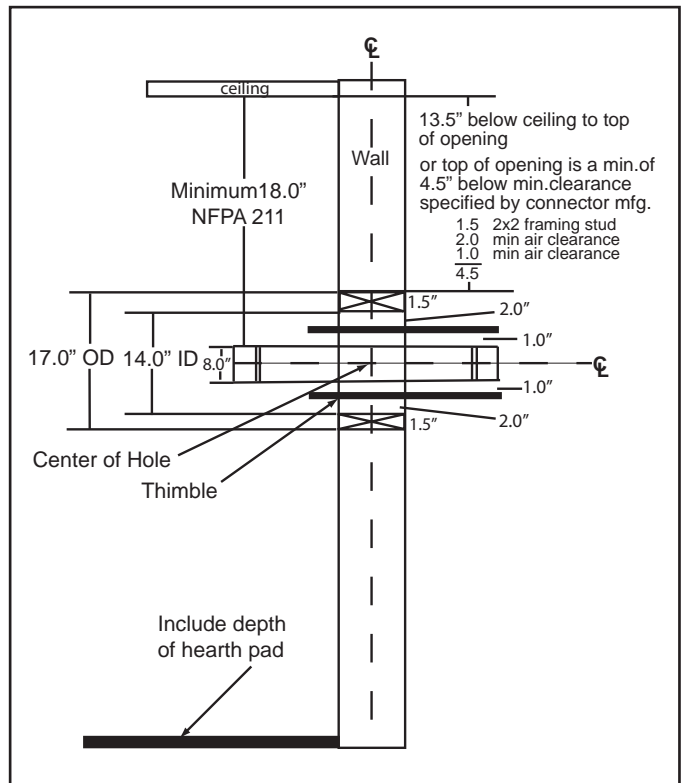

Figure 18.1
- Top of wall opening is a minimum of 13-1/2 inches (343mm) from ceiling or 4-1/2 inches (114mm) below minimum clearance specified by chimney connector manufacturer. NFPA 211 minimum vertical clearance of 18 inches (457mm) from chimney connector and ceiling or minimum recommended by chimney connector manufacturer. **Figure 18.1.**
1. Open inside wall at proper height for the chimney connector to enter the masonry chimney. **Figure 18.1**
3. Construct a 17 inch x 17 inch (432mm x 432mm) outside dimension frame from 2 x 2 framing lumber to fit into wall opening. Inside opening of frame should be no less than 14 inch x 14 inch (356mm x 356mm). **Figure 18.1.**